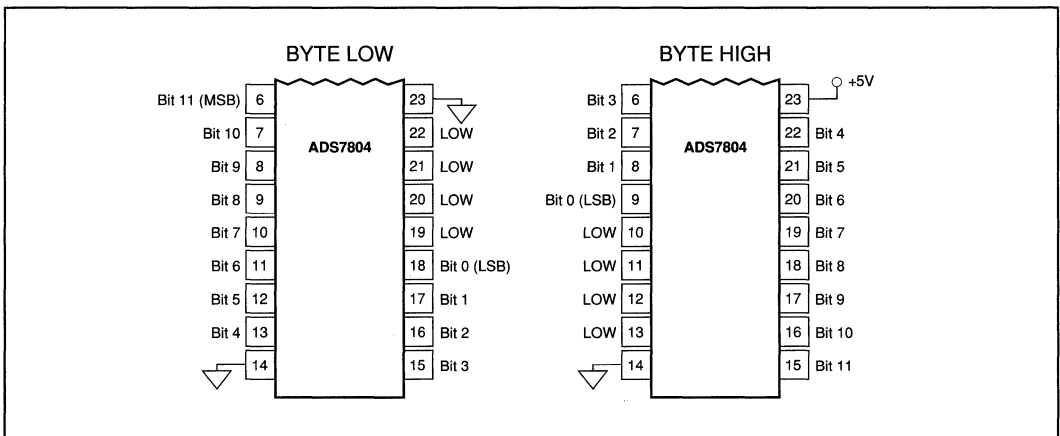

FIGURE 2. Bit Locations Relative to State of BYTE (pin 23).
NOTE: (1) See Figures 2 and 3 for constraints on data valid from conversion "n-1".
The ADS7804 outputs full or byte-reading parallel data in Binary Two's Complement data output format. The parallel output will be active when R/\overline{C} (pin 24) is HIGH and \overline{CS} (pin 25) is LOW. Any other combination of \overline{CS} and R/\overline{C} will tri-state the parallel output. Valid conversion data can be read in a full parallel, 12-Bit word or two 8-bit bytes on pins 6-13 and pins 15-22. BYTE (pin 23) can be toggled to read both bytes within one conversion cycle. Refer to Table III for ideal output codes and Figure 2 for bit locations relative to the state of BYTE.